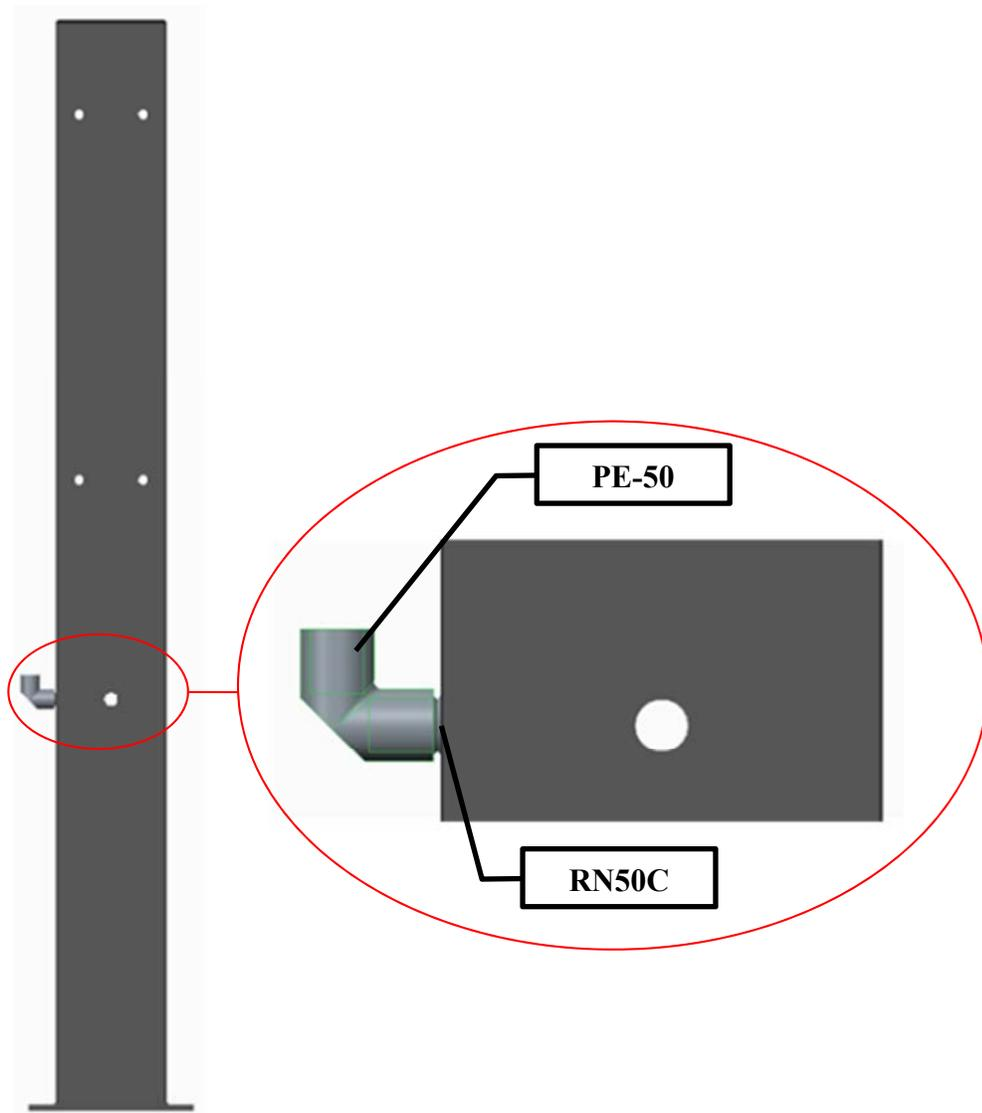

Figure 7: Installation of Conduit Elbow
- B. Install 1/2" Conduit Elbow PE-50 onto 1/2" Conduit Nipple RN50C in the appropriate locations. See Figure 7.